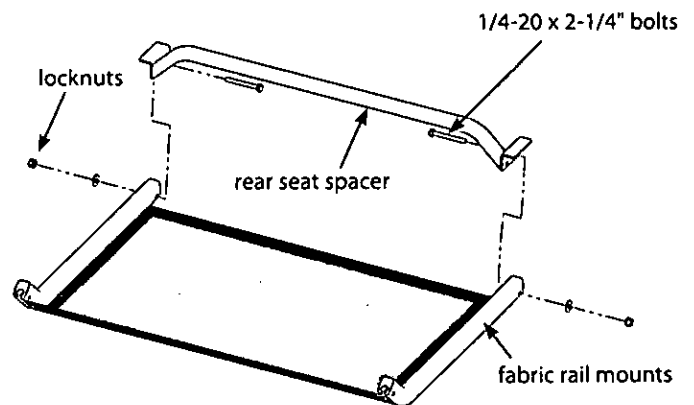

Figure 6a
8. a. Position the pre-assembled mesh seat/fabric rail mounts (360018) upside down on a sturdy, hard surface. Spread the rear of fabric rail mounts apart and insert the rear seat spacer weldment (410122). Temporarily insert (2) 1/4-20 x 2-1/4" bolts and locknuts. **SEE FIGURE 6a.**